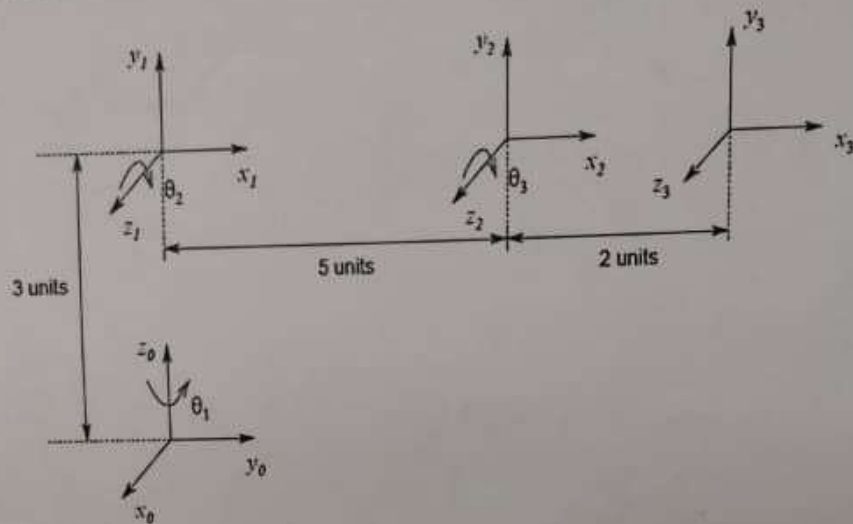

Fig. 3
- 9.(a) A manipulator with 3 DoF having all revolute joints has the coordinate frames shown in Figure 3 assigned to each link. Determine the A_1 , A_2 and A_3 matrices. Also find the resultant Homogeneous Transformation Matrix (HTM) for the same.